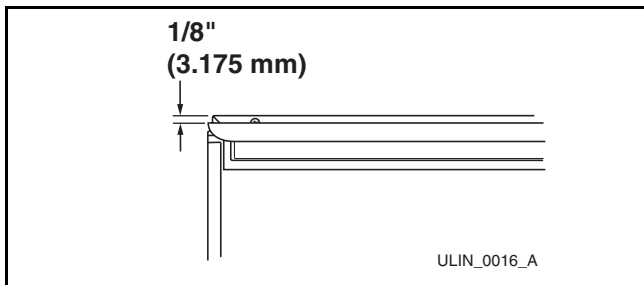

Figure 14. Checking Door Alignment
1. Compare the top edge of the door (opposite the hinges) to the top edge of the cabinet (**Figure 14**) and note the type (up or down) of adjustment needed.